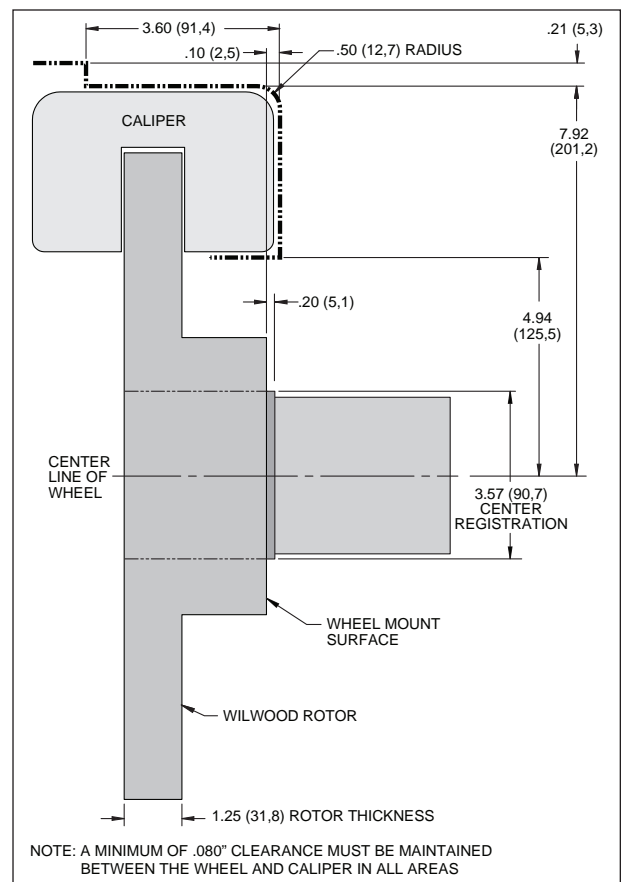

Figure 2. Wheel Clearance Diagram
- Review the Wheel Clearance Diagram (Figure 2, page 3) to verify that there is adequate clearance with the wheels you will be using with the installation.
- Verify your wheel clearance using Figure 2.
- **CAUTION:** Wheel fitment to OEM hub interference must be checked. There is a 3.57" diameter step on the hub face that was used to register the old brake drum (Figure 2). Be sure your wheel fits flush against the hub face. If the step interferes, you will need to use a wheel spacer (customer supplied) to clear the step.
- Temporarily install the wheel and torque the lug nuts to the manufacturer's specification. Ensure that the wheel rotates freely without any interference. **CAUTION:** *Wheel fitment to OEM hub interference must be checked.* There is a 3.57" diameter step on the hub face that was used to register the old brake drum (Figure 2). Be sure your wheel fits flush against the hub face. If the step interferes, you will need to use a wheel spacer (customer supplied) to clear the step.
- NOTE:** *OEM rubber brake hoses generally cannot be adapted to Wilwood calipers. The caliper inlet fitting is a 1/8-27 NPT. Install Wilwood's stainless steel braided flexline hose kit (22), P/N 220-13319 included with this kit. **Carefully route hoses to prevent contact with moving suspension, brake or wheel components.** NOTE: *Wilwood hose kits are designed for use in many different vehicle applications and it is the installer's responsibility to properly route and ensure adequate clearance and retention for brake hose components.**